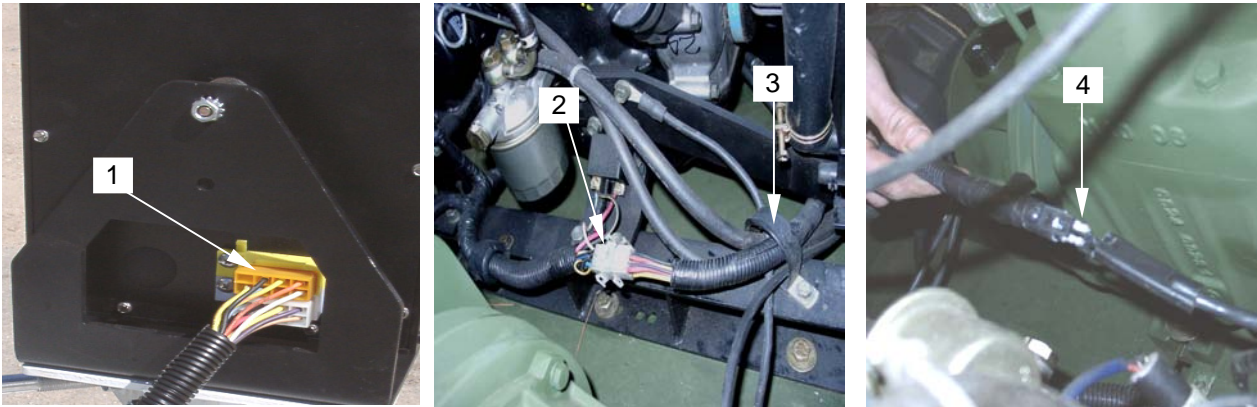

Figure 1. Control Panel and Lighting Harness
7. Remove the wire harness (**figure 1, item 1**) from the control panel and engine harness (**figure 1, item 2**). Remove wire harness from engine cable retainers (**figure 1, item 3**).
8. Separate the lighting harness plug (**figure 1, item 4**).